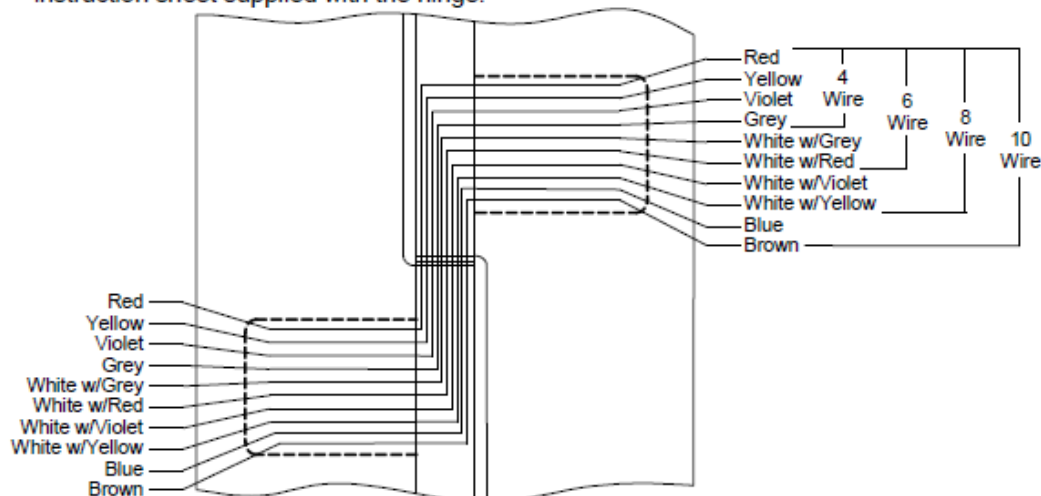

Fig. 3
1. Connect the system wires from the door to the appropriate leads of the hinge door leaf (as described in the system wiring diagram). See Fig. 3. Insulate the bare end of any unused wires.